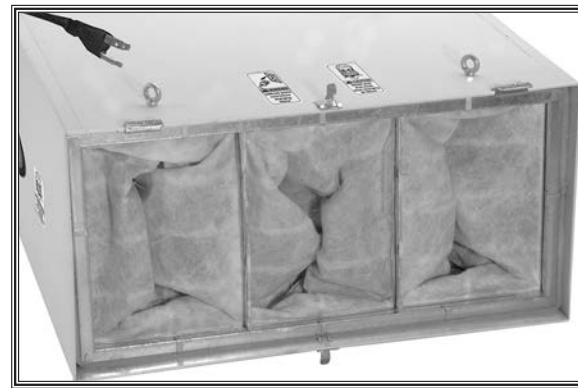

Figure 19. 1-Micron secondary filter.
5. Remove secondary filter (see **Figure 19**) and shake out wood dust until clean. Then wash filter with warm water and let dry.